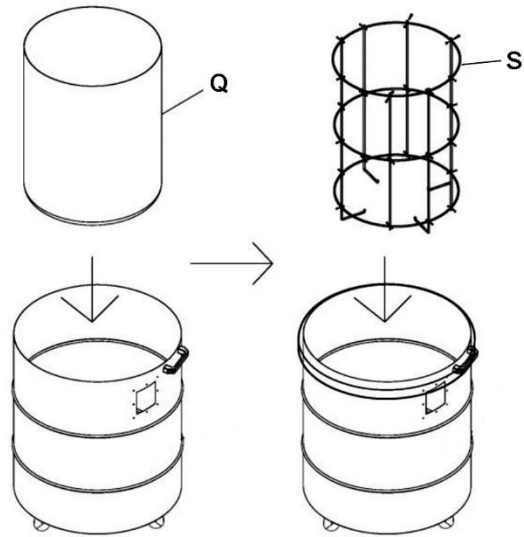

Figure 14
20. Place drum collection bag (Q) into drum with its top edge wrapped around top edge of drum. Place bag frame (S) inside bag and press all the way down. See Figure 14.